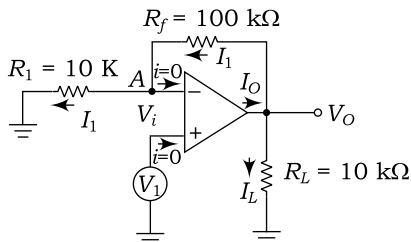

Fig. 7.102
21. Figure 7.102 shows the non-inverting amplifier, where $R_1 = 10 \text{ k}\Omega$, $R_L = R_f = 100 \text{ k}\Omega$ and $V_1 = 5 \text{ V}$. Calculate (a) V_O , (b) gain, (c) I_1 , (d) load current I_L , and (e) output current I_O .